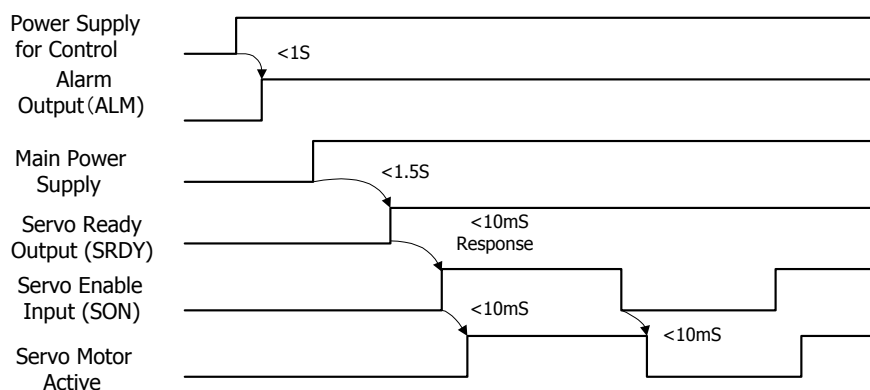

Figure 7.2 Power-on timing -chart
- 2) The power-on and alarm timing-chart are shown in Figure 7.2 and 7.3